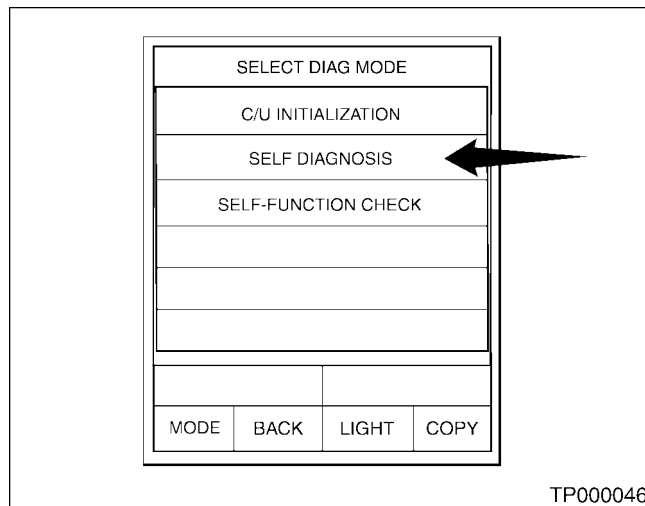

Figure 10
11. Select "ENGINE" (see Figure 10).